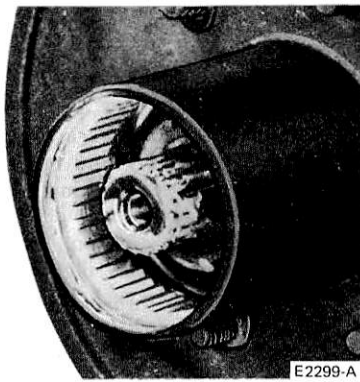

FIG. 7 Grease Application
1. Grease the inner hub with high speed grease (Fig. 7).